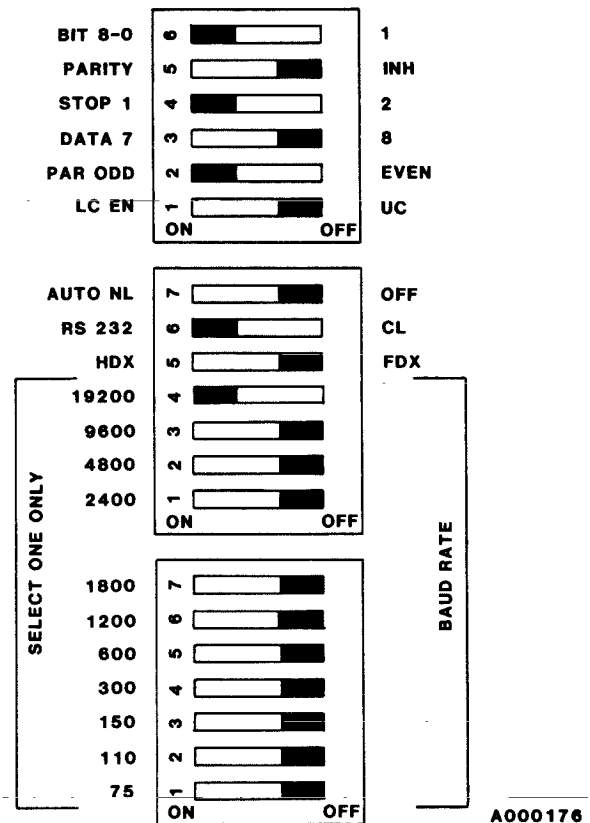

FIGURE 3. FRONT PANEL SWITCHES
5. Twenty Front Panel Switches are located beneath the nameplate, adjacent to the keyboard. A slot-head screw is used to secure the nameplate. Depress the sides (ON or OFF) of the Front Panel Switches that are darkened in FIGURE 3. The lower 11 switches select the desired baud rate. In FIGURE 3, the maximum baud rate of 19200 has been selected. A lower baud rate may be selected, if desired. Replace the